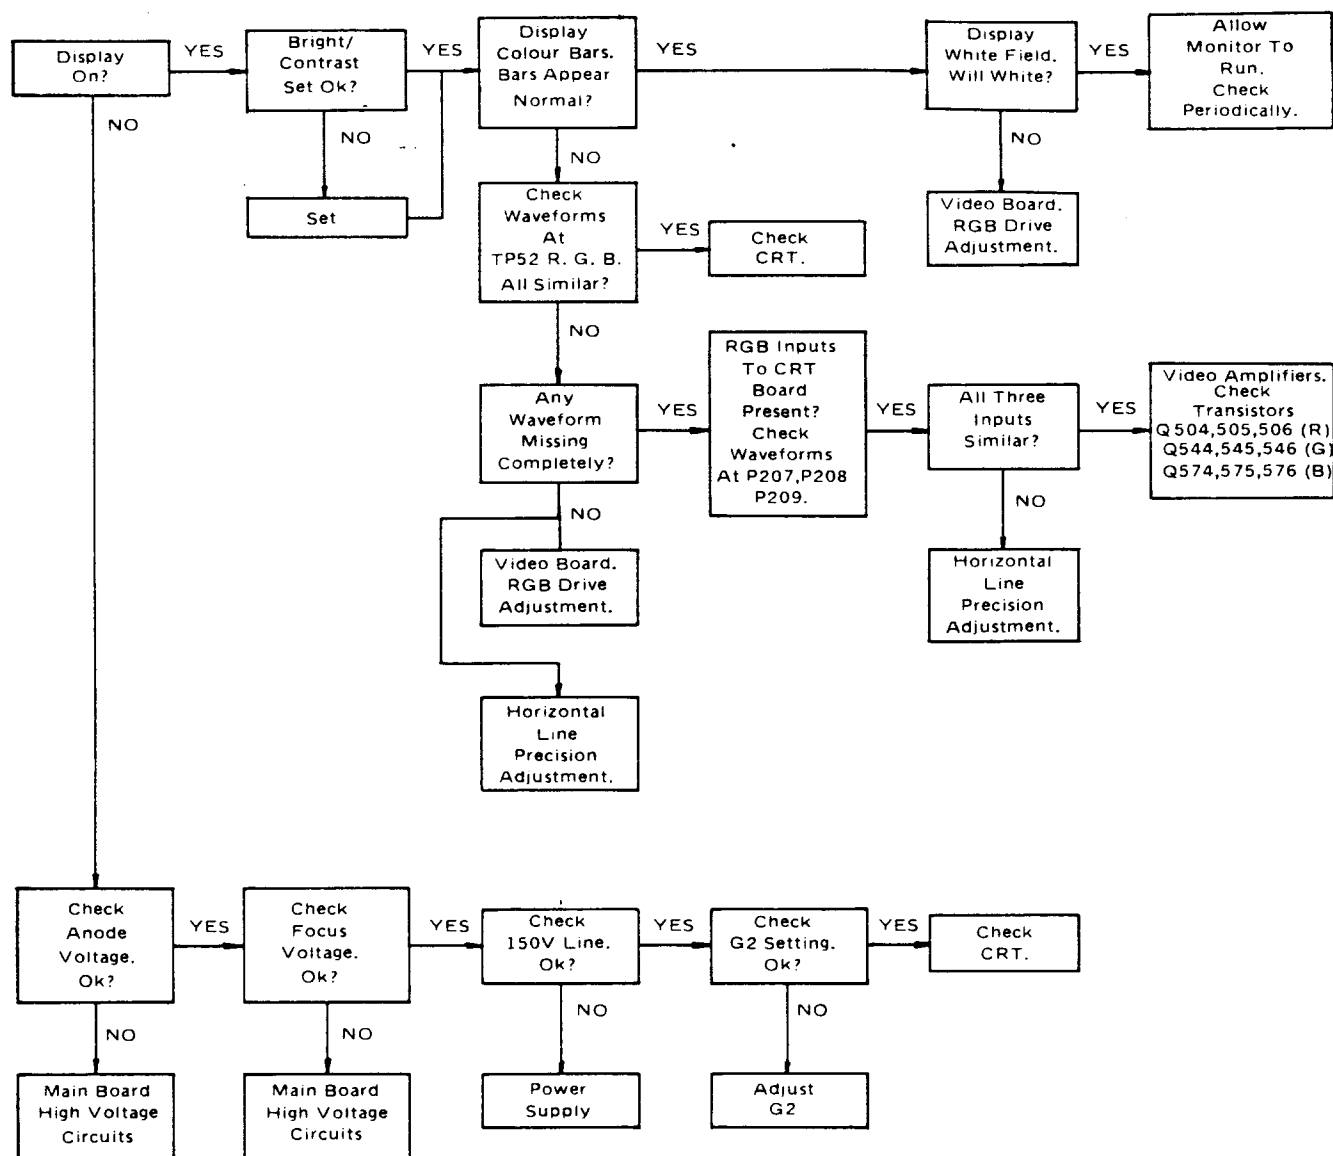

Fig 5-5 CRT Board Troubleshooting Chart
- CRT Board Troubleshooting Chart (Fig 5-5)